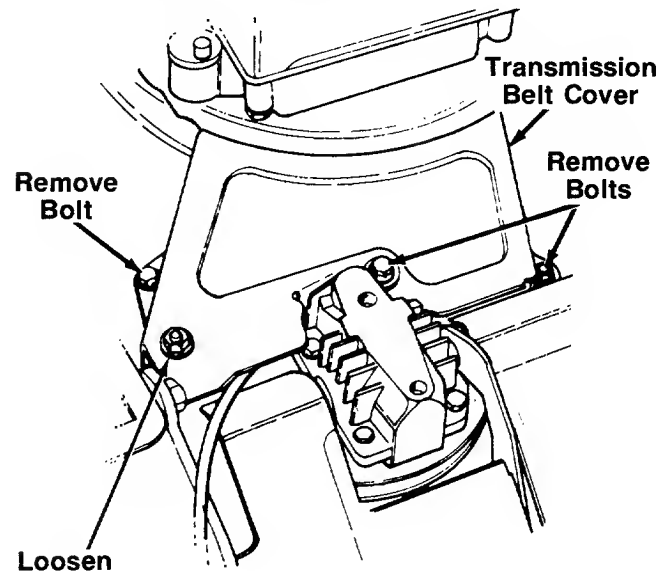

FIGURE 18.
3. Remove the transmission belt cover by removing three bolts. See figure 18.